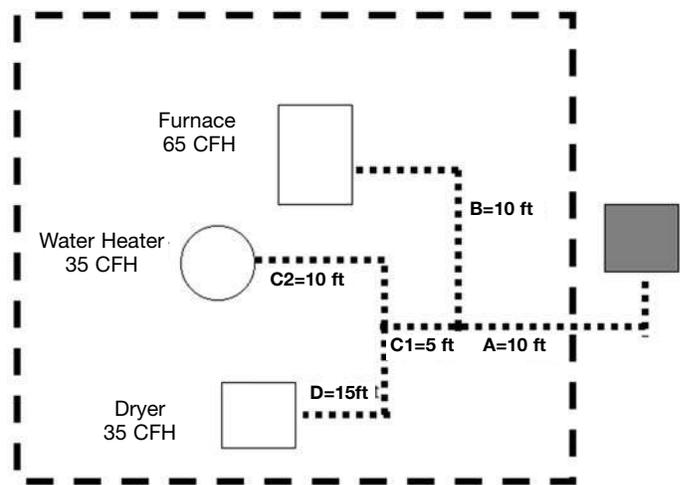

Figure 3-8
- The system presented in figure 3-8 is similar to that in 3-1, a single-family installation with the addition of one more appliance, a dryer. The supply pressure is 6 inches water column and the allowable pressure drop is 1/2 inch.